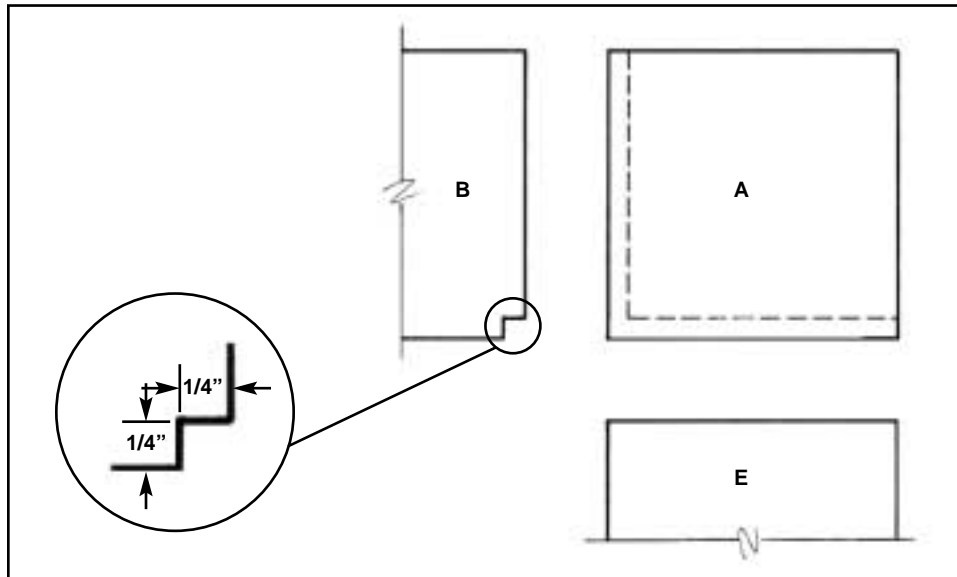

Figure 4
3. Cut a 1/4" by 1/4" notch in the end of Boards (B) where they attach to board (A). See Figure 4.
4. Glue and finish nail boards (B) and (C) to (A). See Figures 4, 5 and 6 and the Construction Diagram. Note that you may have to cut the bottom board (C) narrower to fit the length of the groove in boards (A) and (D).